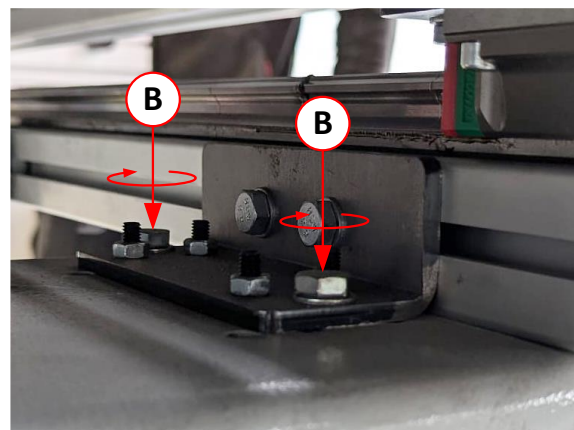
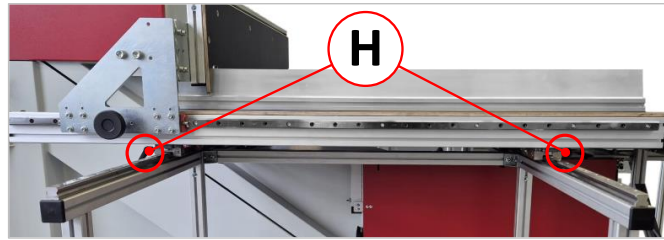

Figure 8: Hand-tighten the mounting screws (B)
Figure 10: Clamping lever (H) for left sliding table
Mounting on the machine stand is done using the two holes (L) in the two mounting brackets (W), which are already bolted to the profiles of the left sliding table. Use the M8 hexagon bolts provided (see ⇨ Figure 8).
<ul style="list-style-type: none"> • The four hexagon head screws (B) in the two mounting brackets (see ⇒ Figure 8) must only be hand-fitted and not tightened. • Both clamping levers (H) under the left-hand sliding table (see ⇒ Figure 10) must be open. • The saw blade guard must be in the uppermost position. • A bandsaw blade must be installed and correctly tensioned.
6. As soon as the left sliding table has been aligned completely correctly, it can be finally fixed. This is done by tightening the (previously only hand-tightened) hexagon head screws (**2**) on the mounting brackets (shown in ⇒ Figure 8) with an open-end spanner size 13.